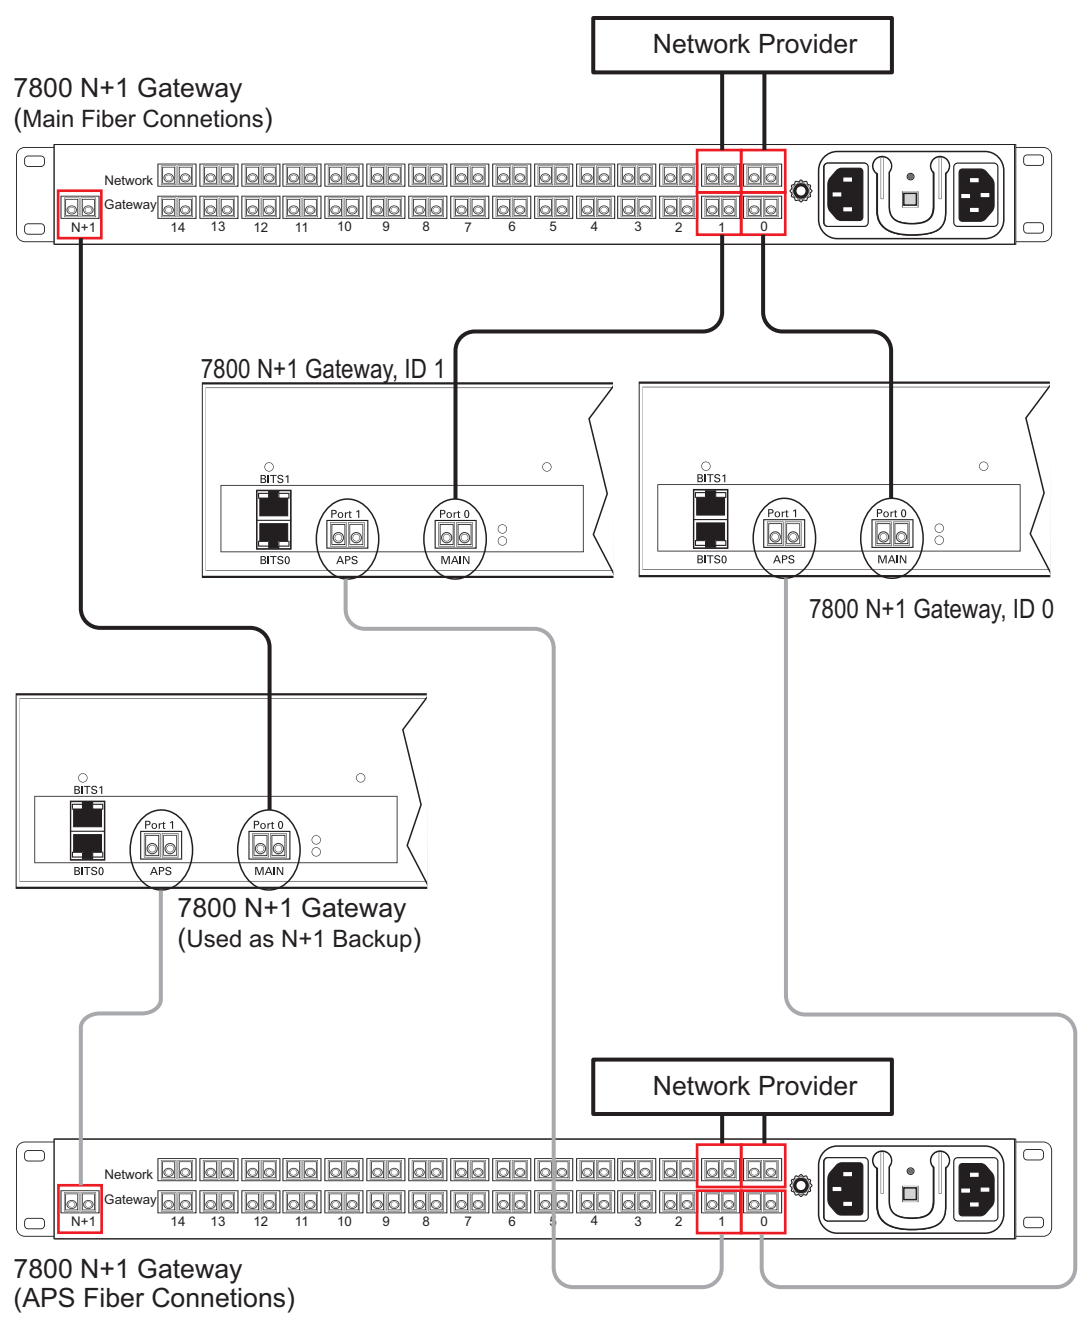

Figure 6.1 Optical Interface Connections to the 7800 N+1 Patch Panel
2. Relate the fiber optic cables from the network provider with each TMG7800-STM1 and use the same port number that is assigned to each TMG7800-STM1. See Figure 6.1 on page 47